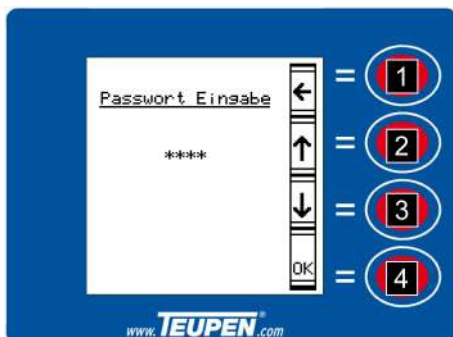

Fig. 65: Password input
1. → Press the *[function key]* (Fig. 65/4).
2. → Using the *[function keys]* (Fig. 65/2 and 3) select the desired digit.
3. → Using the *[function key]* (Fig. 65/4) confirm the selected digit.
→ Using the *[function key]* (Fig. 65/1) return to the *main menu*.